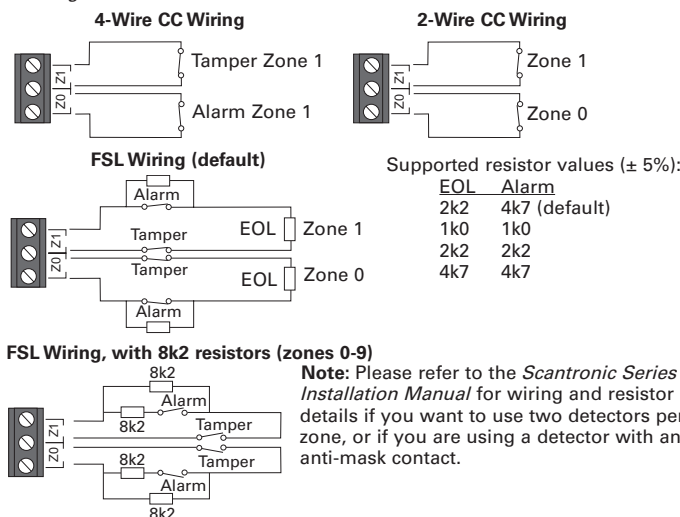

Figure 9. Zone wiring
You can connect up to 10 wired detectors (0 to 9) to the control unit using the Fully-Supervised Loop (FSL), 4-wire Closed Circuit (CC) or 2-wire CC wiring method (Figure 9). You must use the same method for all detectors connected to the control unit. If 4-wire CC is used, the number of zones is halved and are numbered 1-5. To maintain ten 4-wire CC zones (0-9), fit an ADP-10CC board and configure the resistance setting of each zones as 2k2/4k7.